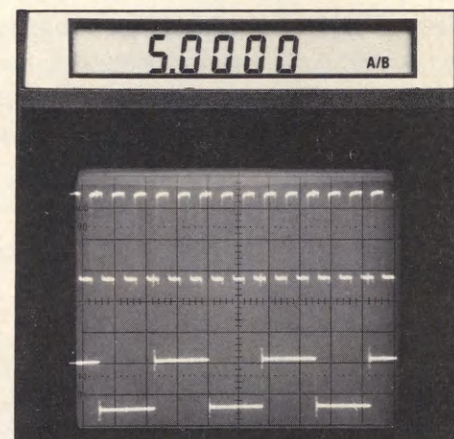

Fig. 5: The frequency ratio function automatically displays the ratio of two waveforms.
- While viewing the input of a transmitter multiplier or digital divider on one channel and the output on the other channel, use the Ratio function to show a direct digital readout of the multiply or divide ratio (Fig. 5).